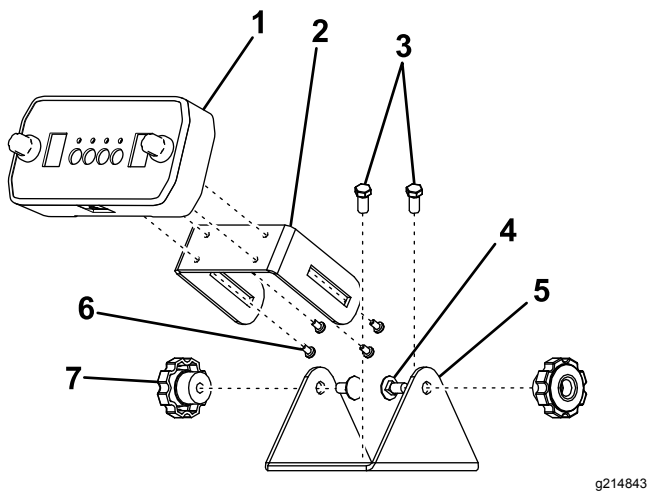

Figure 12
1. Attach the mounting bracket to the vehicle using either 2 hook and loop fasteners or 2 sheet-metal screws (Figure 12).
2. Connect the controller display to the sliding bracket using 4 pan-head screws (Figure 12).
3. Attach the sliding bracket to the mounting bracket using 2 carriage bolts and thumb nuts (Figure 12).